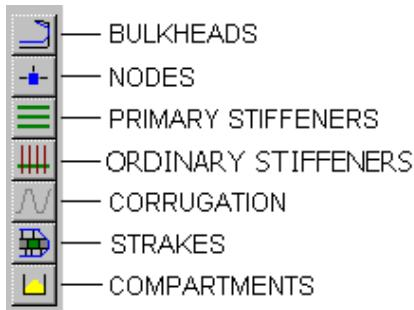

Figure 6 : BHAIN TOOLBAR
- click on the *bulkhead* button (Figure 6),